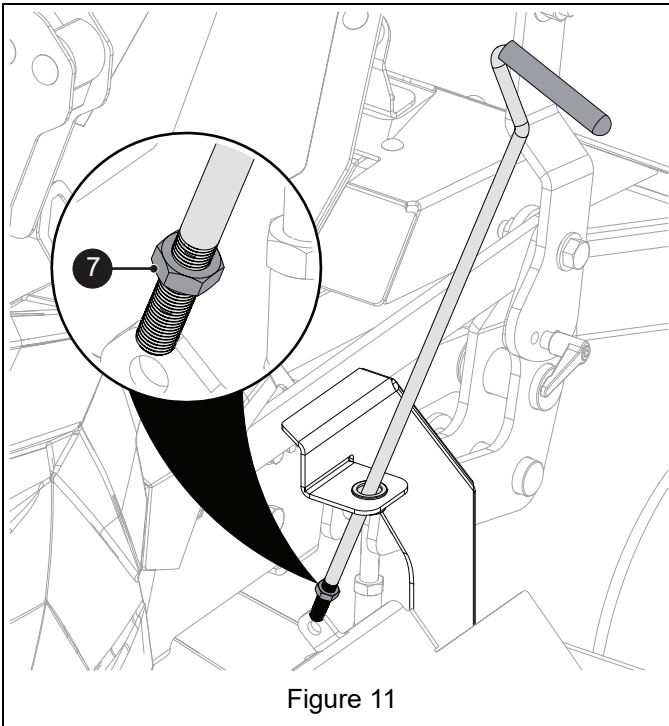

Figure 11
11. Install one 3/8" jam nut (item 7) onto handle assembly threads. See Figure 11.